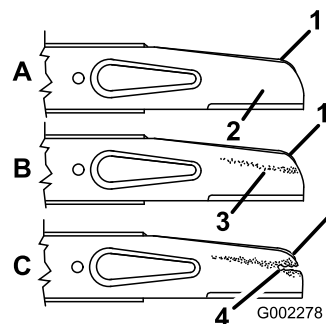

Figure 24
2. Remove the blade bolt, the lock washer, the accelerator, and the blade (Figure 24).